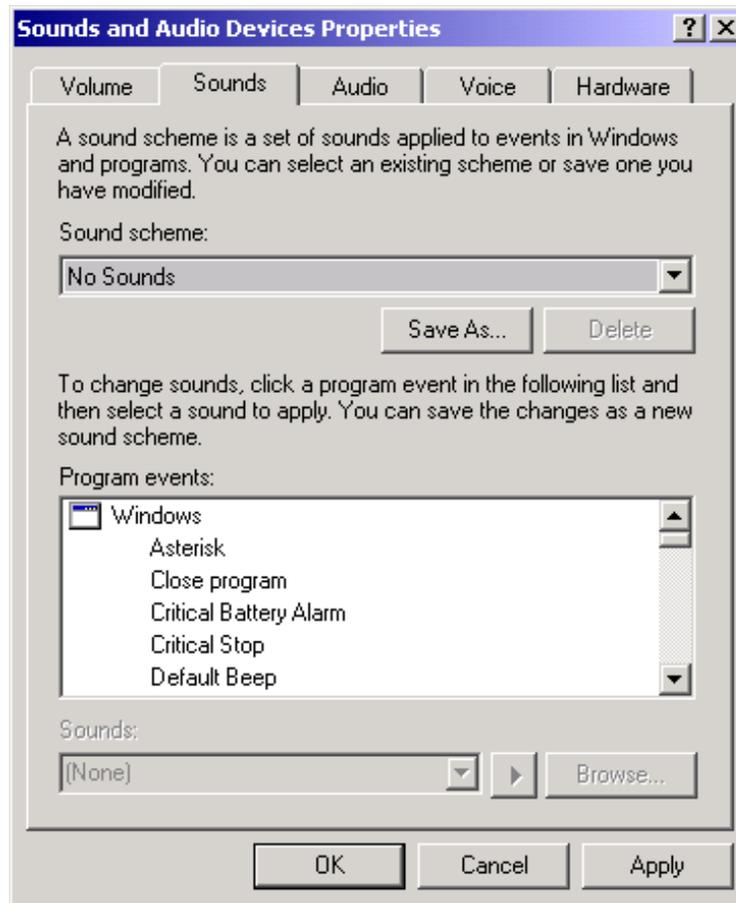

FIGURE 135. No Sounds selected
10. When you have done that, your screen should appear as Figure 135: